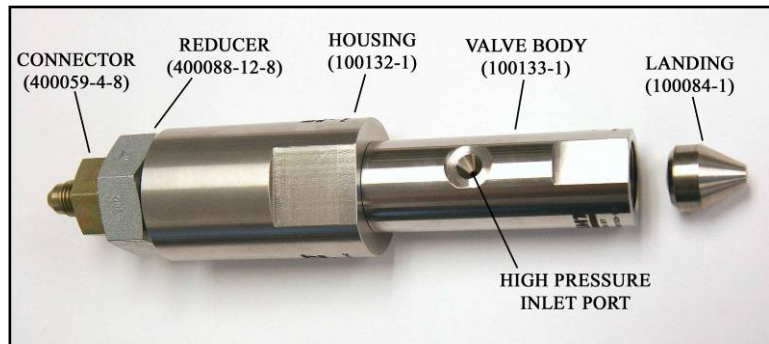

FIGURE 11
Note: Visually make sure the seal assembly is installed past the high-pressure inlet port on the Valve Body. **See Figure 11.**
27. Apply a small amount of Blue Goop to the Landing (100084-1). Drop the Landing into the Valve Body (100133-1), with the large tapered end facing out. **See Figure 11.**